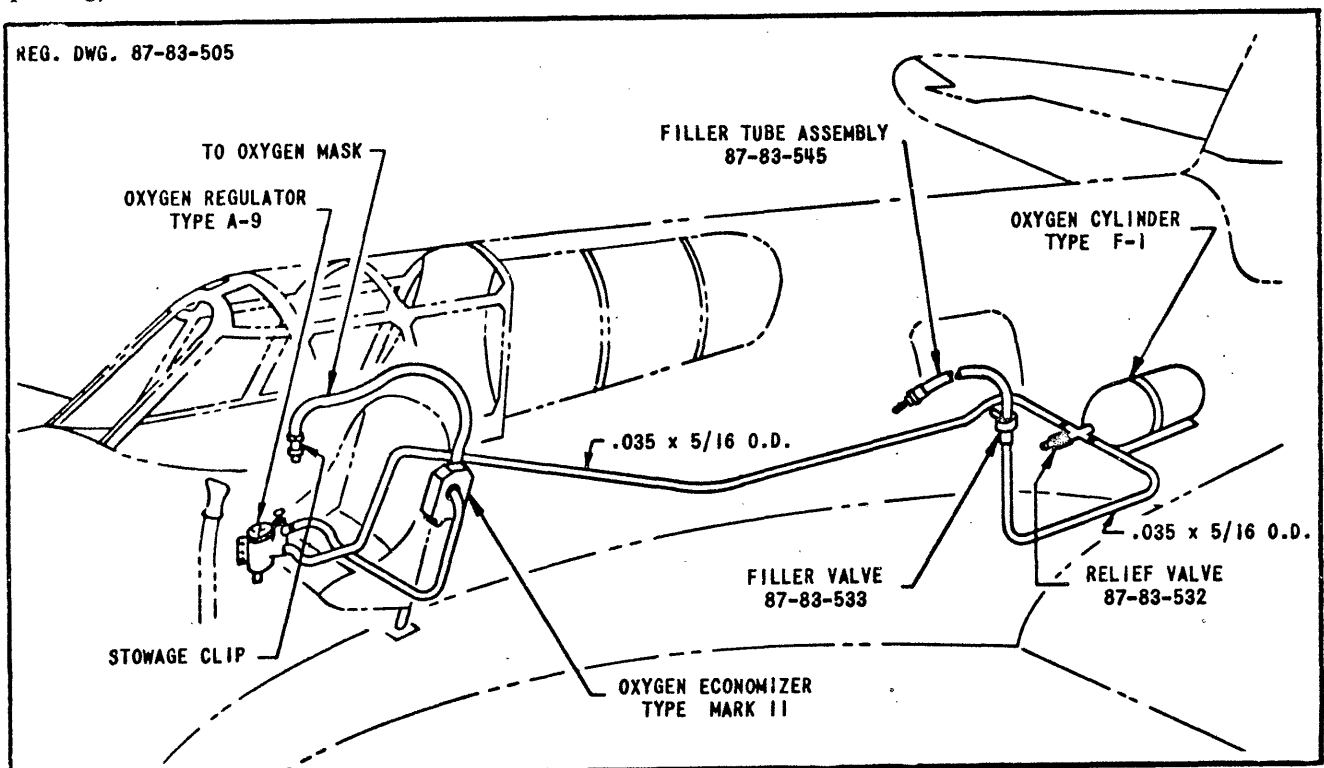

Figure 108 - Oxygen Diagram
a. General. - The oxygen installation is a low pressure system operating at approximately 425 lbs./sq.in. The installation consists of a type F-1 cylinder (Spec. 40330), with a cross connection on its forward end, an oxygen and filler line of 5/16 inch O.D. copper tube (Spec. WW-T-799) or aluminum alloy, soft temper (Spec. 57-187-3), a type A-9 regulator (Spec. 40319), a British type economizer, a spring loaded relief valve, and one way filler valve. (See figure 108.)